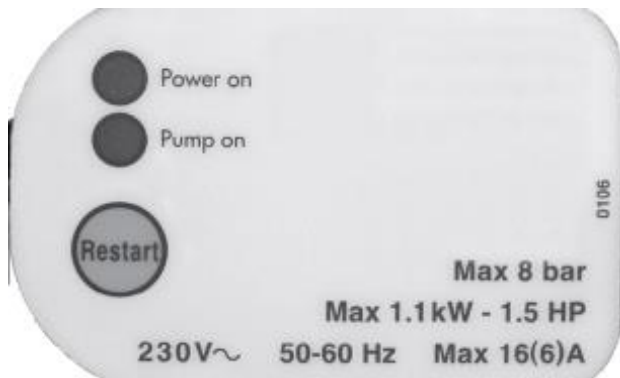

Fig. 2
5. Operation of the flow control (see figure 2 below)